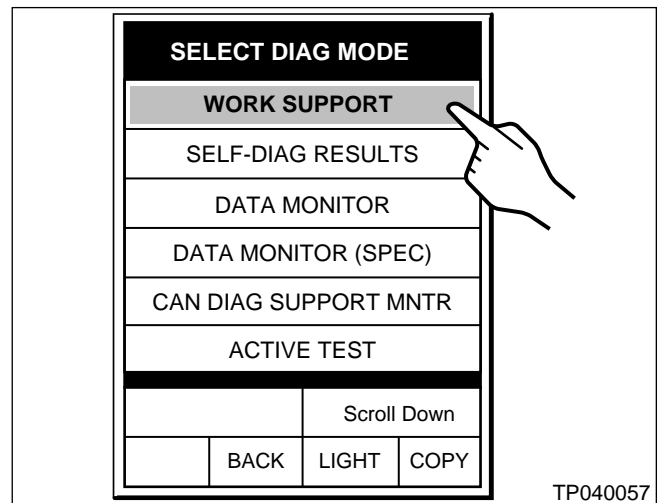

Figure 9
- b. Select **WORK SUPPORT** on the "Select Diag Mode" screen. See Figure 9.